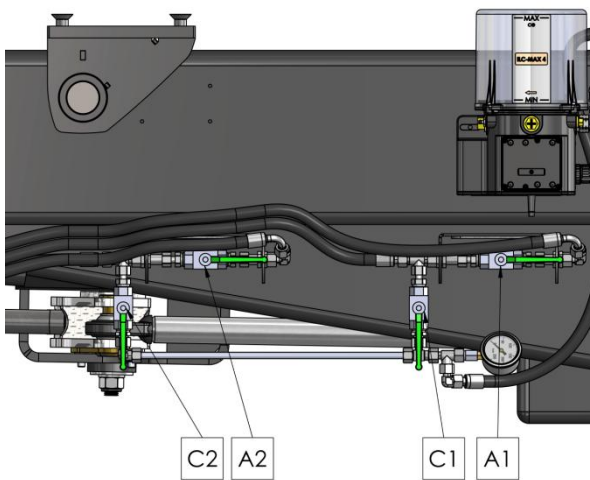

Figure 13-5 Valves open
4. The next step is to open the vertical (C1, C2, C...) ball valves. The ball valves are open when the handle is parallel to the pipe, see Figure 13-5.
3. Open the horizontal (A1, A2, A...) ball valves of the towed vehicle and drive approximately 30 meters forward in a straight line. The valves are open when the handle is parallel to the line, see Figure 13-5.
- Open the **horizontal** and **vertical** ball valves on the towed vehicle, see Figure 13-5. The valves are open when the handles are parallel with the lines.